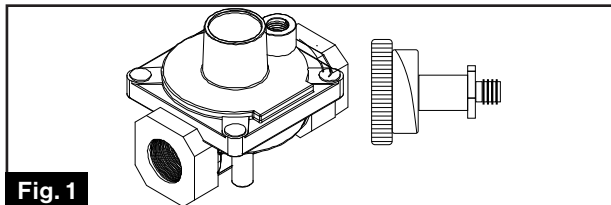

Fig. 1
3. Adjust the pressure regulator by following below instructions: (Fig. 1)